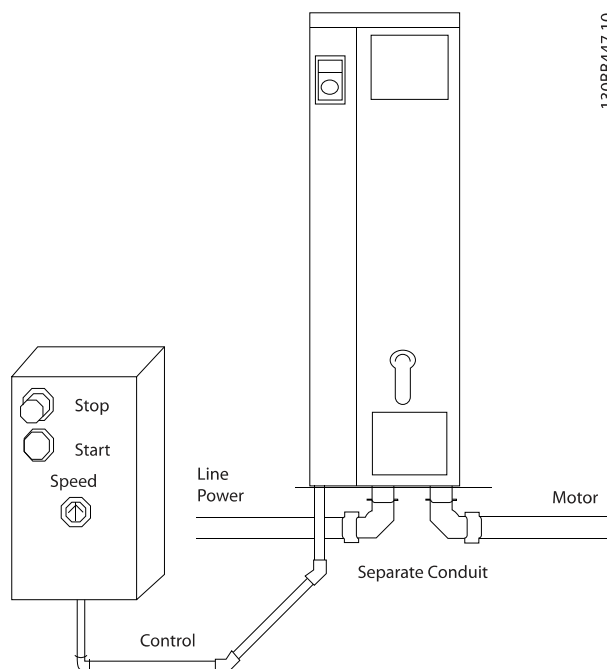

Figure 2.5 Proper Electrical Installation Using Conduit
- Because the motor wiring carries high frequency current, it is important that wiring for line power, motor power, and control is run separately. Use metallic conduit or separated shielded wire. Failure to isolate power, motor, and control wiring could result in less than optimum equipment performance. See *Figure 2.5*.